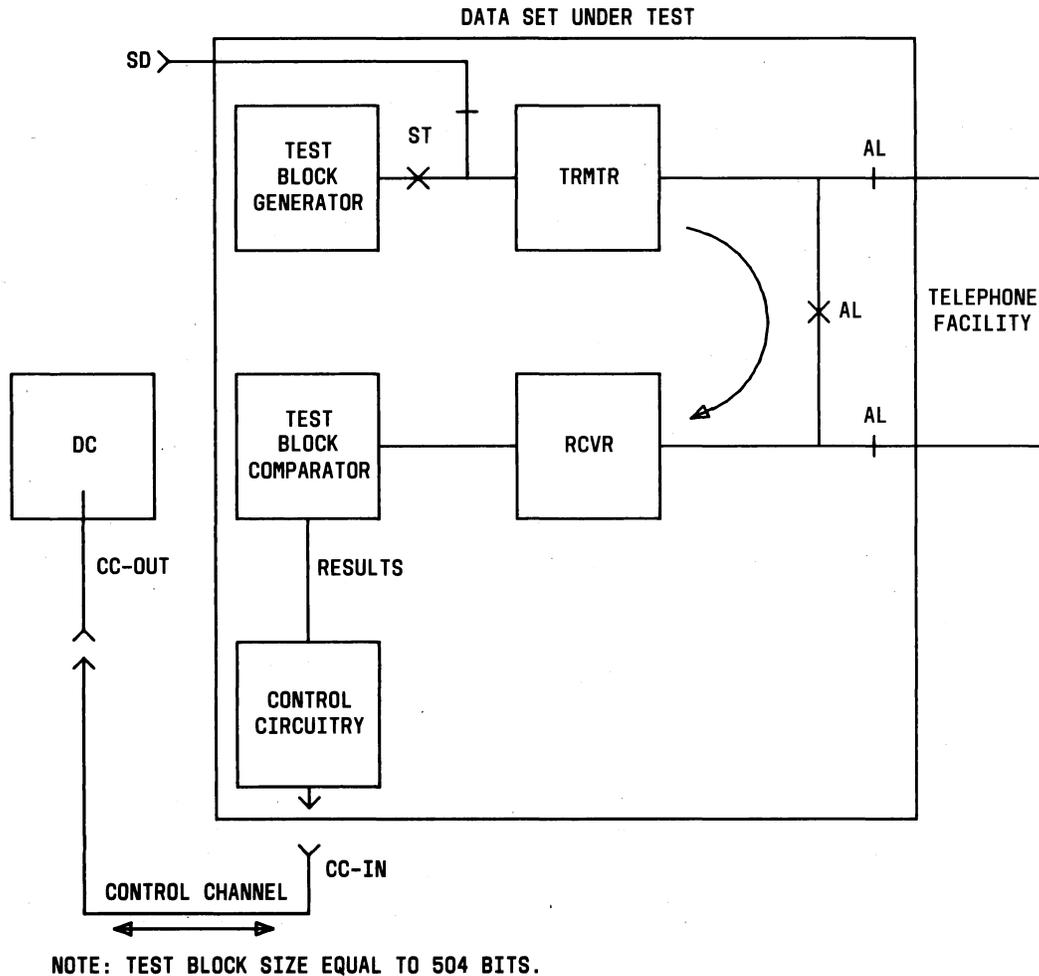

Fig. 4—Modem Self Test
3.39 Modem self test (Fig. 4) involves start-up and transmission of an approximately 500-bit message 100 times. This test is run one time if subtest modem test-single (MT-SINGLE) is selected or continuously if subtest modem test-continuous (MT-CONTS) is selected.